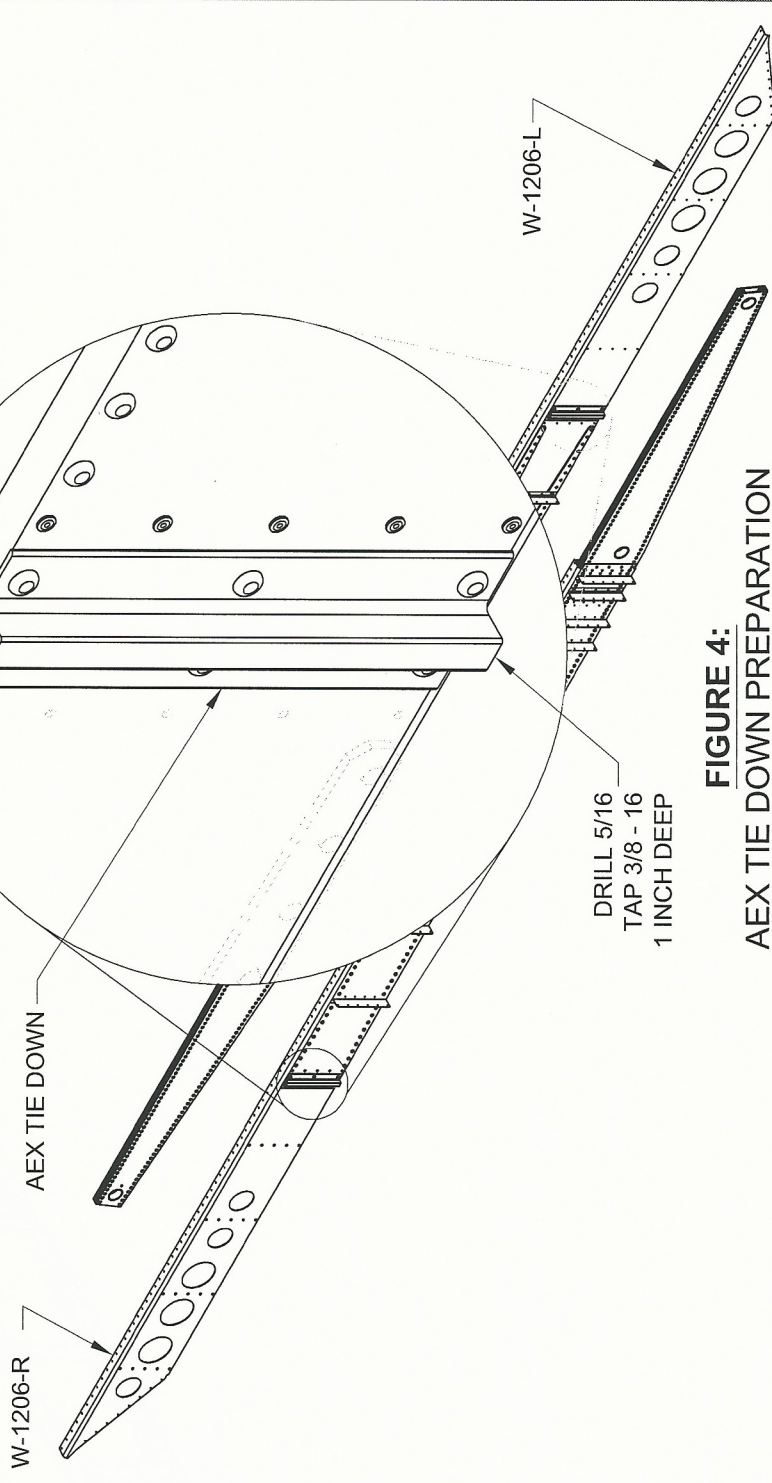

FIGURE 4:
Step 5: Drill and tap the 19/64" holes in the AEX Tie Down on both W-1206-L & -R, Spar Assemblies as shown in Figure 4.